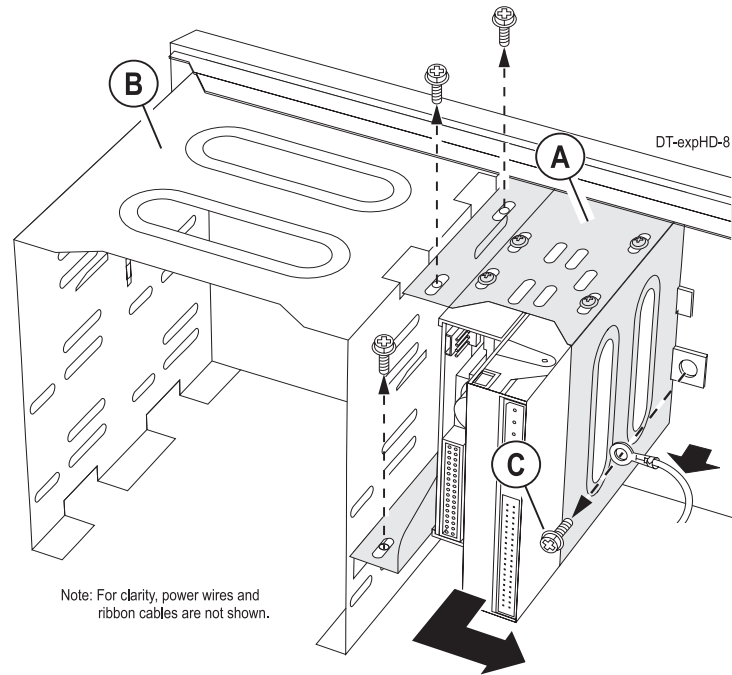

Figure 6
- Remove and retain the screws securing the floppy drive bucket assembly to the side of the expansion hard drive cage (see parts A and B, respectively, on Figure 6).
- Note:** You may also see a screw securing a green wire (chassis ground) to the hard drive/floppy drive bucket assembly (part C on Figure 6). Remove and retain this screw to disconnect the green wire.